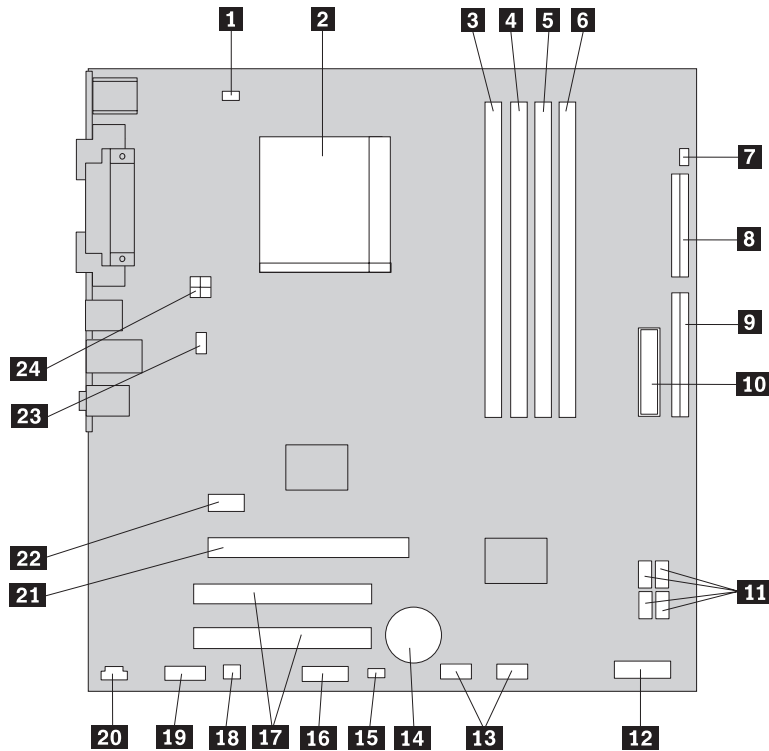

Figura 4. System board parts locations
Figura 4 shows the locations of parts on the system board for some computer models.
4. Locate the memory connectors. See Figura 4 a pagina 7.